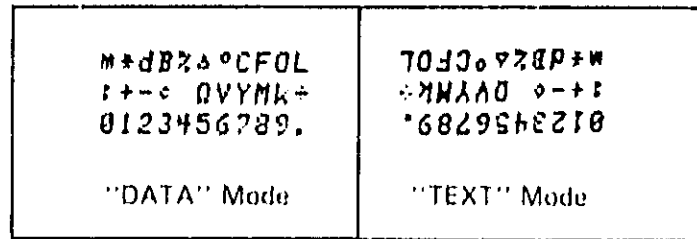

Figure 8-3. Printer Test Passes.
**8-63. Pass.** The Logging Multimeter has passed this test if it successfully prints the character set in a manner similar to Figure 8-3. Things to check for are: